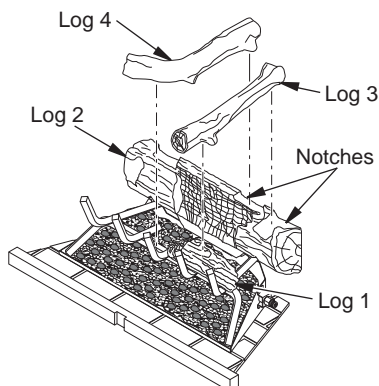
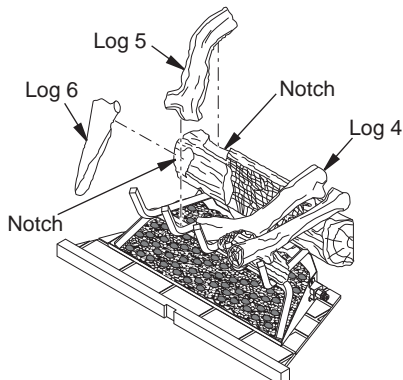
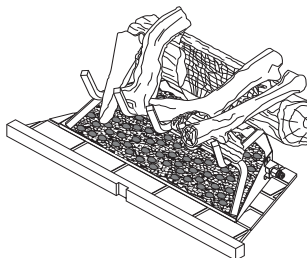

Figure 26 - Installing Logs 3 and 4
Figure 27 - Installing Logs 5 and 6
Figure 28 - Logs Installed for M36, M36P, VM36 and VM36P Models
3. Place log 3 into notch on log 2, resting front end on top of log 1 (see Figure 26).
4. Place upper end of log 4 into notch on log 2 as shown in Figure 26. Rest lower end of log 4 onto middle grate finger as shown in Figure 27.
5. Place upper end of log 5 into notch on left of log 2 (see Figure 27). Rest lower end of log 5 on grate as shown in Figure 28.
6. Insert lower end of log 6 between first two grate fingers as shown in Figure 28 and position upper end of log 6 into notched area on front of log 2 as shown in Figure 28.